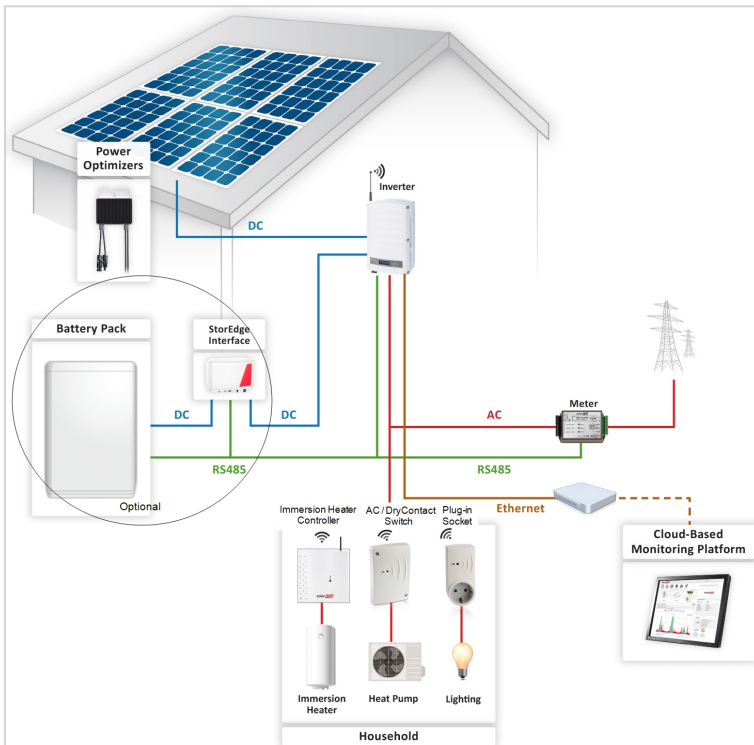

Figure 1: SolarEdge System with Device Control
6. Press the association button on the AC Switch (see *Figure 1*).